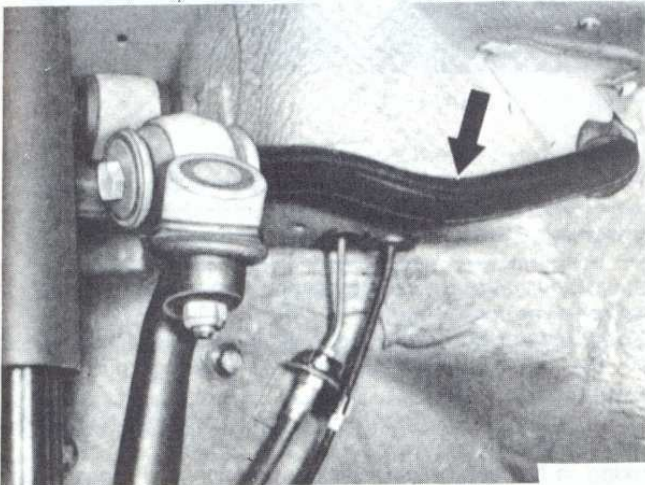

Fig. 11.5 Correct fitting of the front stabiliser bar (Sec 5)
- 9 Refitting is a reversal of removal, but make sure that the bends on the bar are as shown in Fig. 11.5, and that the recesses in the clamps are located over the lugs on the mounting rubbers. Delay fully tightening the mounting nuts and bolts until the full weight of the car is on the suspension.